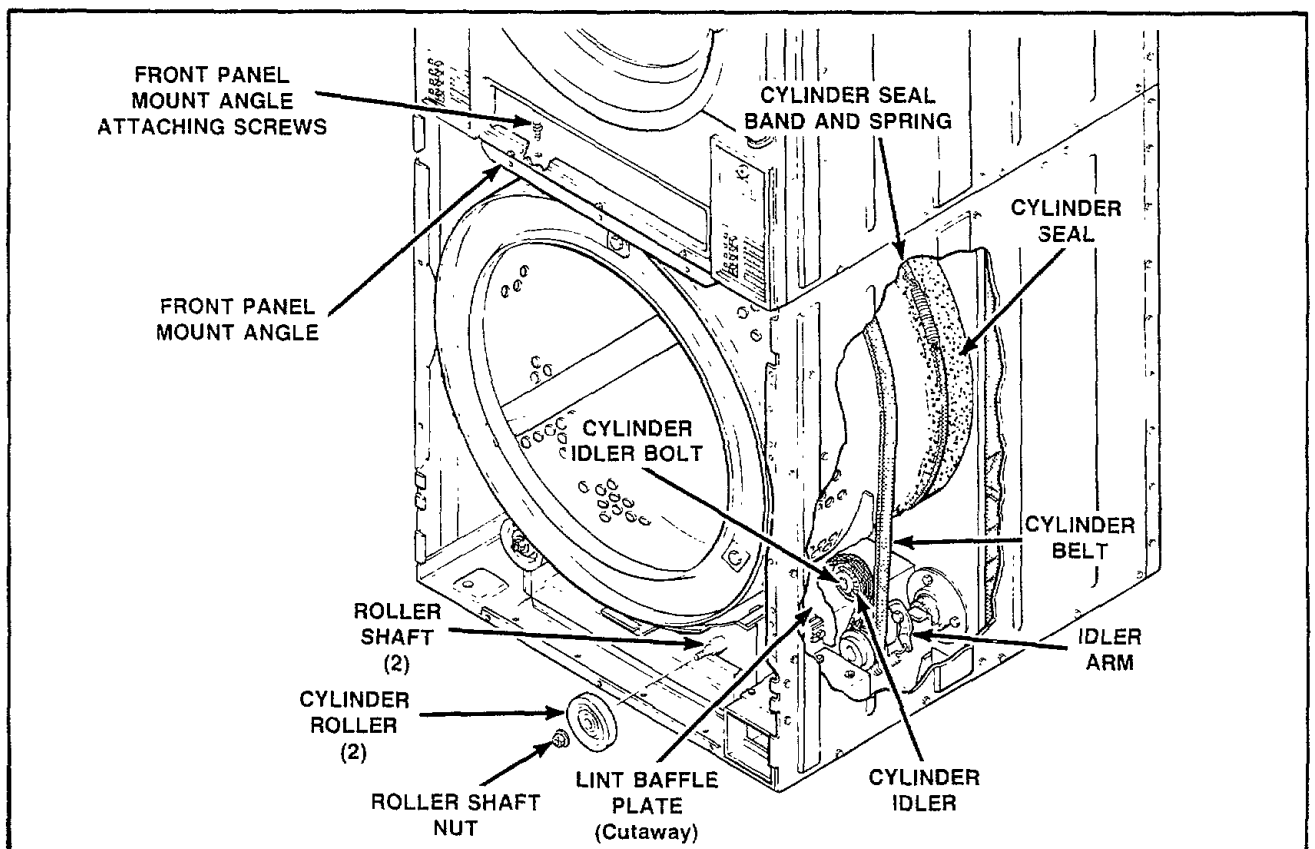

Figure 15
## 14. CYLINDER ROLLERS (Figure 15)
## 15. CYLINDER BELT (Figure 15)
#### 16. CYLINDER IDLER (Figure 15)
- e. Remove screws attaching lint baffle plate to cabinet. Remove lint baffle plate. *Figure 15*
Unlock and remove top lint drawer. Remove screws attaching front panel mount angle to top unit base and remove front panel mount angle from bottom unit. *Figure 15.*